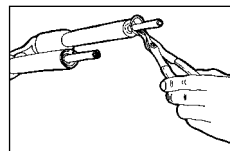

Fig. 8
2. Remove the snap rings at the bottom of the upper tubes with small tip internal snap ring pliers. (See Fig. 8)